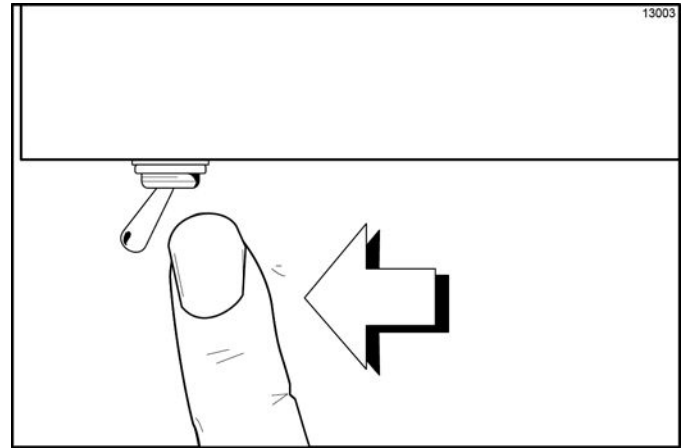

Figure 6-118
1. Make sure the power switch is in the OFF position. (See Figure 6-118.)